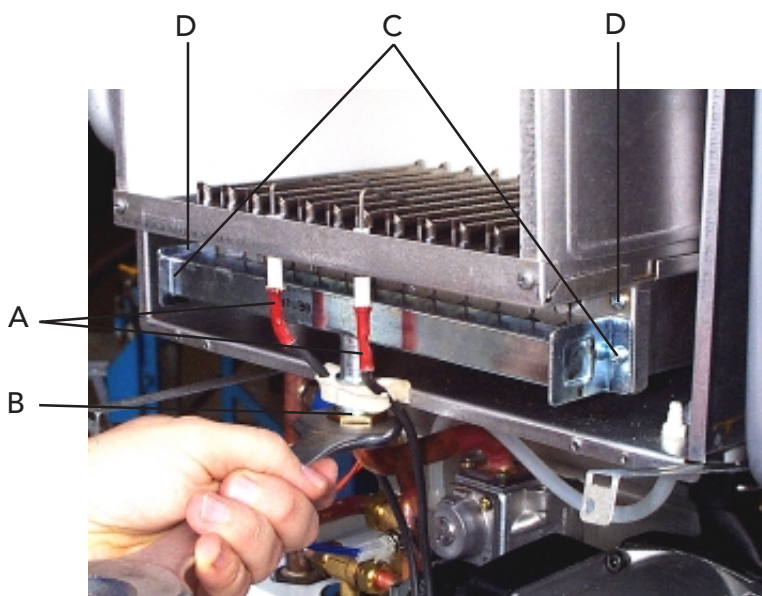

Fig. 40
7.08 Removal of burner (fig. 40)